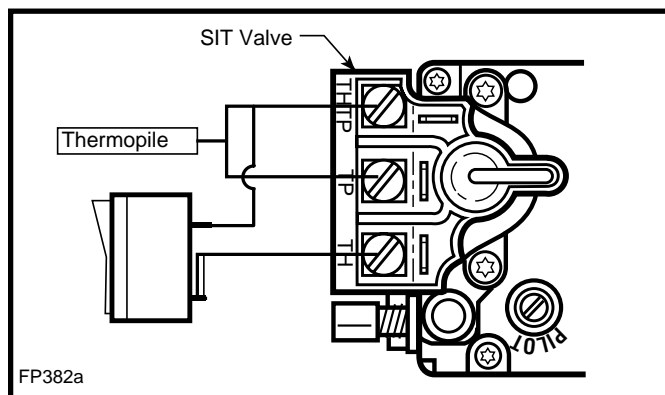

Fig. 7a On/Off switch or millivolt thermostat.
4. Connect wiring to gas valve (Fig. 7a & b) and switch.